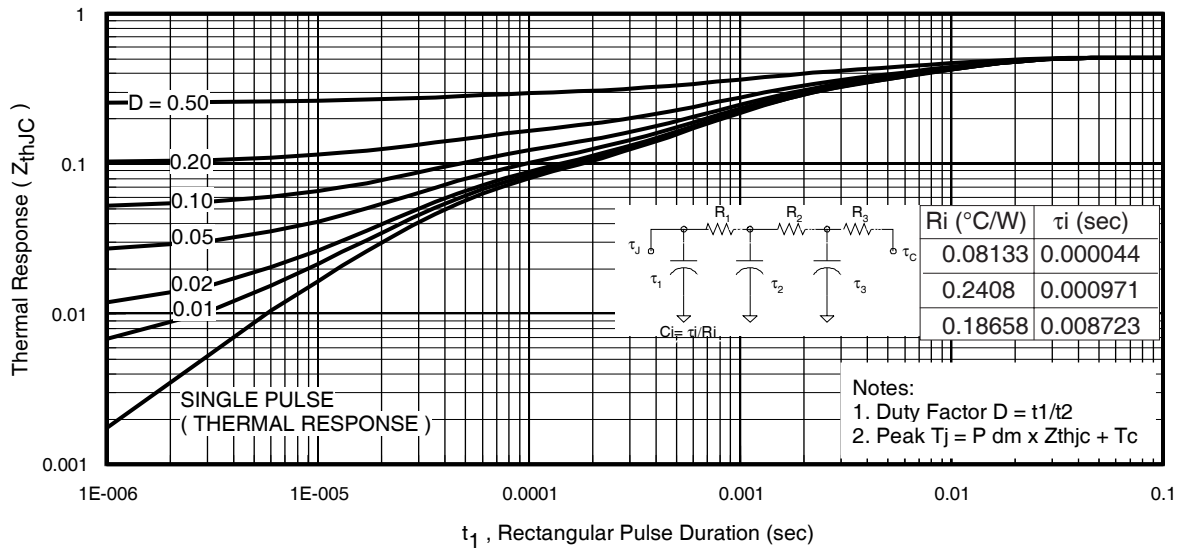

Fig 11. Maximum Effective Transient Thermal Impedance, Junction-to-Case
- ① Repetitive rating; pulse width limited by max. junction temperature. (See fig. 11).
- ② Limited by T_{Jmax} , starting $T_J = 25^\circ\text{C}, L = 0.10\text{mH}, R_G = 25\Omega, I_{AS} = 75A, V_{GS} = 10V$. Part not recommended for use above this value.
- ③ Pulse width $\leq 1.0\text{ms}$; duty cycle $\leq 2\%$.
- ④ $C_{oss\ eff.}$ is a fixed capacitance that gives the same charging time as C_{oss} while V_{DS} is rising from 0 to 80% V_{DSS} .
$Z_{thJC}(D, t_{av})$ = Transient thermal resistance, see figure 11)